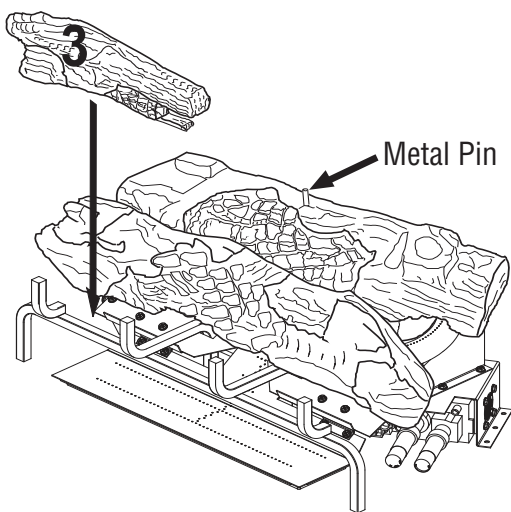

Figure 30 - Installing Log # 3
3. Place the front left log (#3) onto the base assembly between the middle log and the grate. The back of the front left log will rest against the front of the middle log. The notch in the end of the front left log will fit around the grate bar. See **Figure 30, Page 20**.